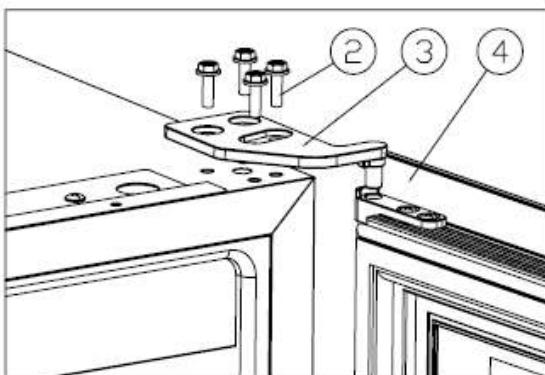

Figure 1
- ✧ Unscrew the M5*16screws②,dismantle the right upper hinge③, and remove the door.[Figure 1].